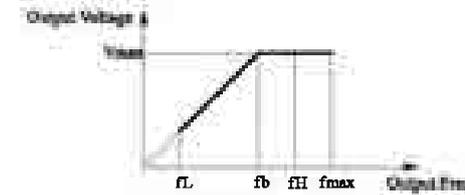

Figure F0-1 Voltage and Frequency
rated frequency of motor, as  $f_b$  showed in the following figure; the maximum output voltage  $V_{max}$  is the output voltage when output basic running frequency, usually rated voltage of the motor, as  $V_{max}$  showed in the following figure;  $f_H$ ,  $f_L$  are defined as upper limit frequency and lower limit frequency separately, as showed in figure F0-1:
4. The maximum output frequency, upper limit frequency and lower limit frequency have relations as showed in figure F0-1, please notice the numerical value order when setting.